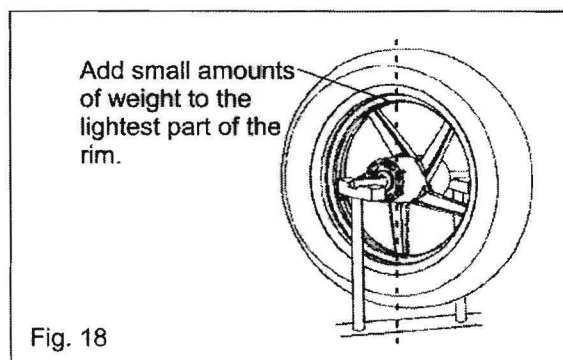

Fig. 18
5. Place balance weights at the lightest portion of wheel in small increments. (Fig. 18)